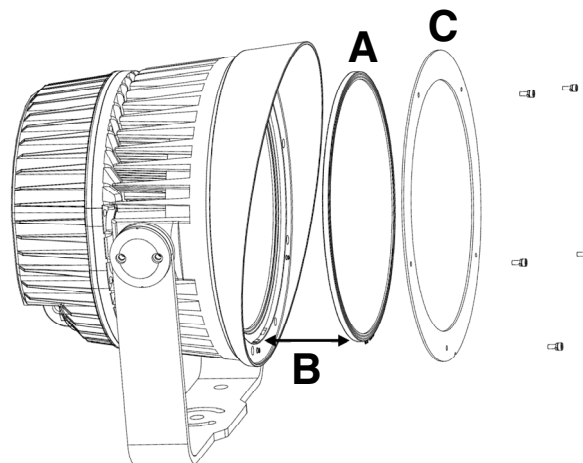

Figure 4. Diffuser installation
2. See Figure 4. Position the diffuser **A** over the front of the fixture, making sure that the marking '**this side out**' close to the edge of the diffuser faces outwards, towards the front of the fixture.
If you install a louver over a diffuser lens, you do not need to use the trim ring shown at **C** in Figure 4 on page 12 because the louver will hold the diffuser securely.